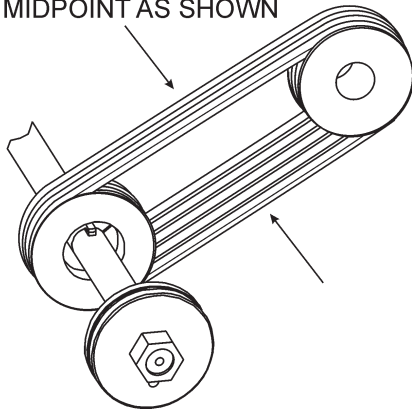

Figure 17. V-Belt Tension
3. Check V-belt tension (Figure 17) by using a tensionmeter (2.7 - 4.1 kg/6.0 - 9.0 lbs.) against the inside belt at a mid point between the two pulleys, or by deflecting the center belt at a mid point 10 mm (3/8") - 13 mm (1/2").